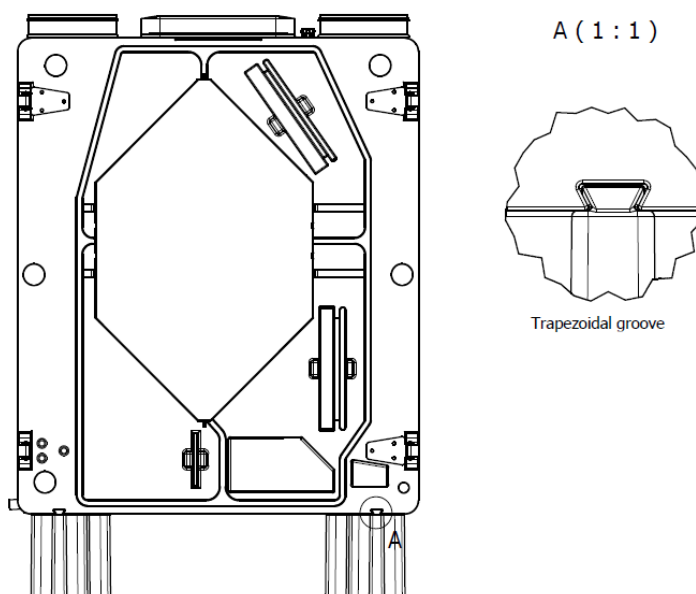
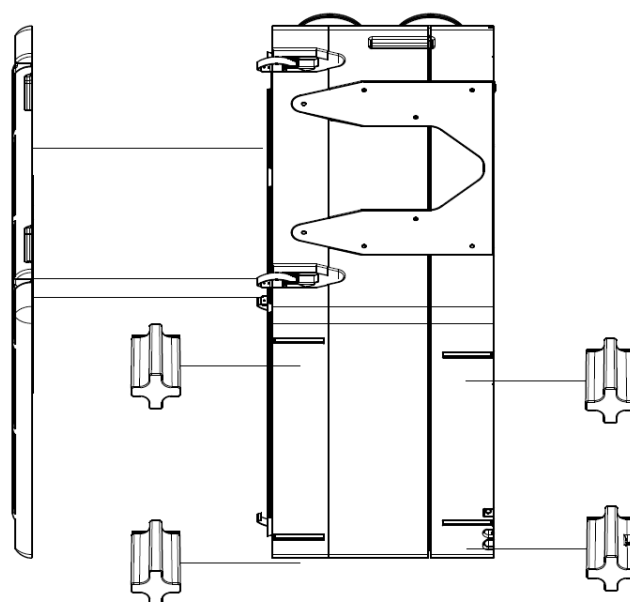

Figure 6 – trapezoidal groove
Figure 7 – sliding feet in trapezoidal groove
- To mount the feet correctly slide them into trapezoidal rails carved in the housing. In order to get access to front rails you must disassembly front cover. There is 4 feet as a standard equipment. (see figure 6 and figure 7).